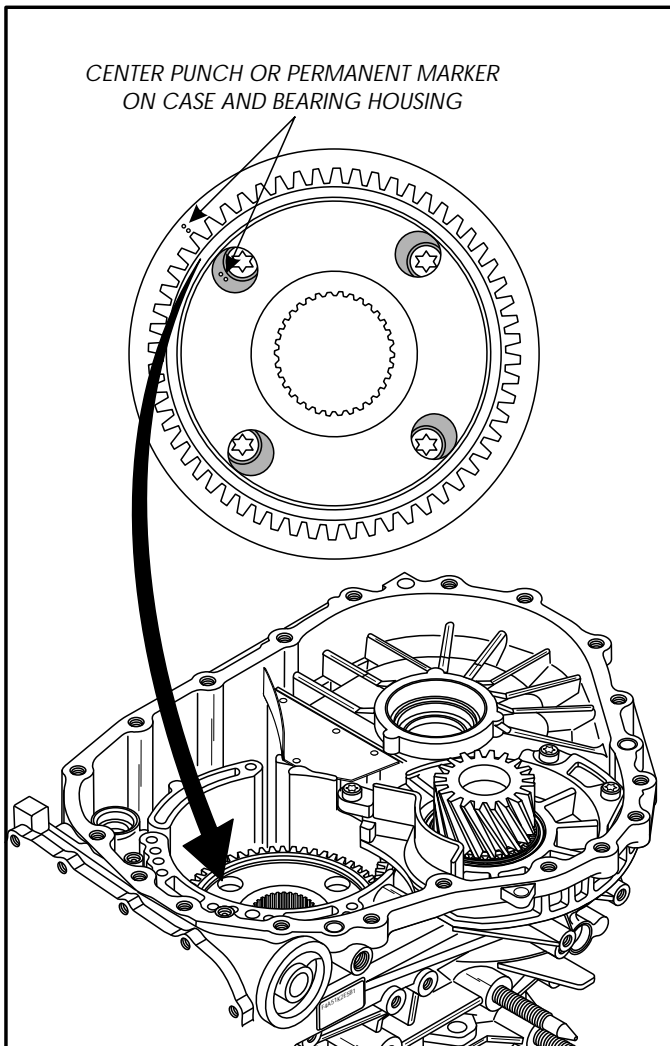

Figure 61
81. Remove the transfer drive gear by accessing the retaining bolts through the access holes provided, as shown in Figure 61.
*Note: Reference marks must be placed on case and bearing housing (See Figure 61). Housing bolts in case in 1 direction only.*